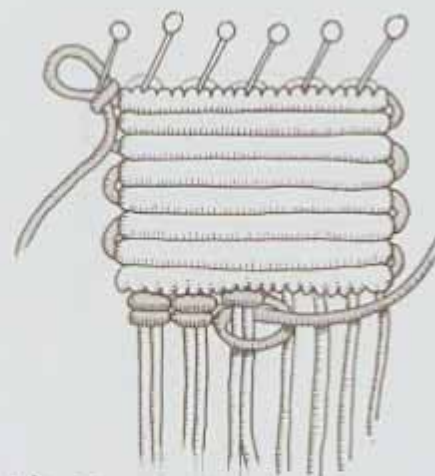

Fig. 5
4. **Row 9** - Working from left to right, group Cds #1 & 2 together and make a **VDHH** (Vertical Double Half Hitch) around both of them with the **Runner** Cord. Continue across the row, making **VDHHs** around Cds #3 & 4, #5 & 6, #7 & 8, and #9 & 10, for a total of 5 **VDHHs**. There will be small gaps in between each **VDHH**, don't crowd them (see Figure 5).